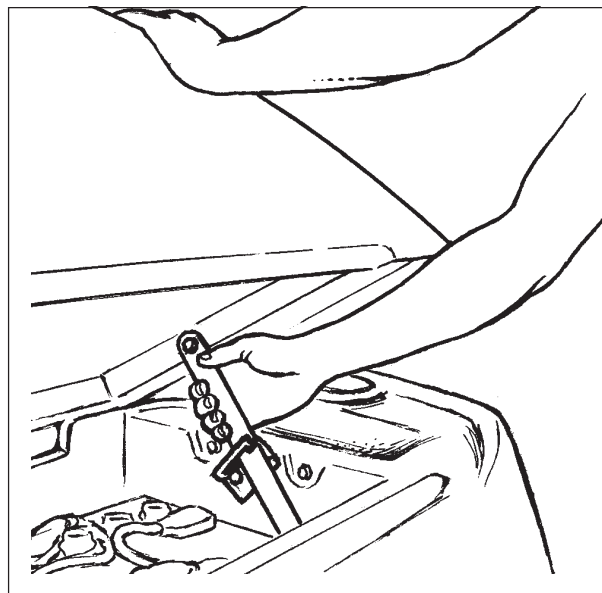

Figure 8B
**NOTE:** There is an intermediate position available for holding the recovery tank open for charging batteries. See figure 8B.